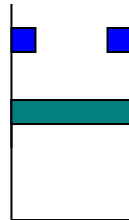

Figure41 . P3.3.
3.3 A piston-cylinder device contains 50kg of water at 200kPa with a volume of 0.1m^3 . Stops in the cylinder restrict the enclosed volume to 0.5m^3 , (Figure 41). The is now heated to 200°C . Find the final pressure, volume, and the work done by the water.